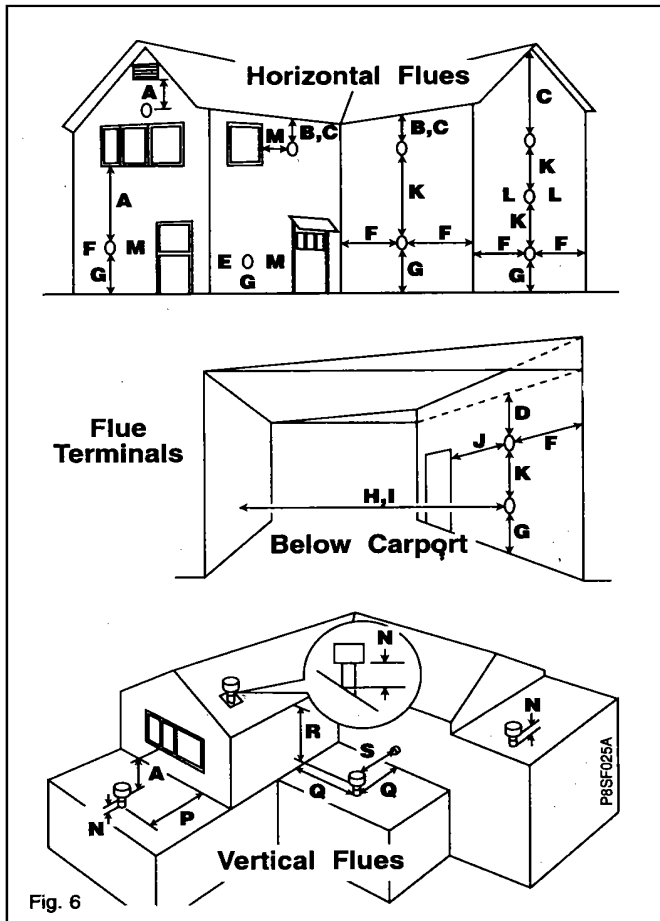

Fig. 6
1.3 Flue Terminal and Ducting (Fig: 6 - a, b & c)
90° In-line elbow kits and **135° In-line Bend** kits are also available for more flexible siting. Horizontal flues can be set at 45° angles to the combination boiler, through 360°, to the miniature terminal on the outside of the building. The siting positions for horizontal flue terminals are shown in Figs. 6 - a) & b).
135° Off-set kits are available for both concentric and twin tube. The siting of the flue terminal through a roof is shown in Fig 6. - c).